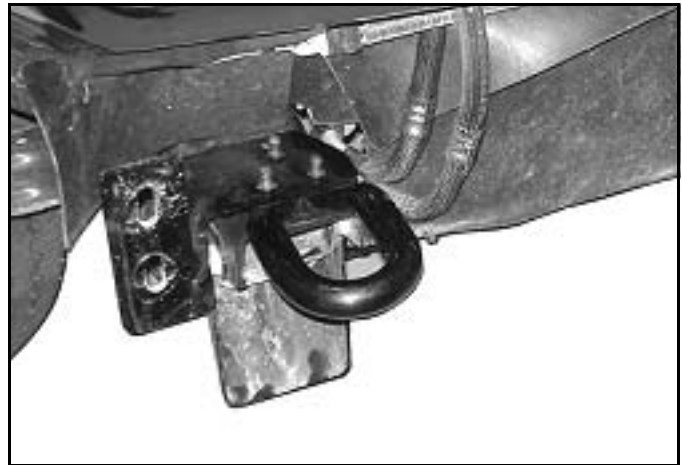

Figure 1
- A. After the bumper is removed, continue the installation process by removing the removable blocker beams. Note: There is one located on each side of the frame rail. See Figure 1 and 2. Retain blocker beams and hardware for future installation.